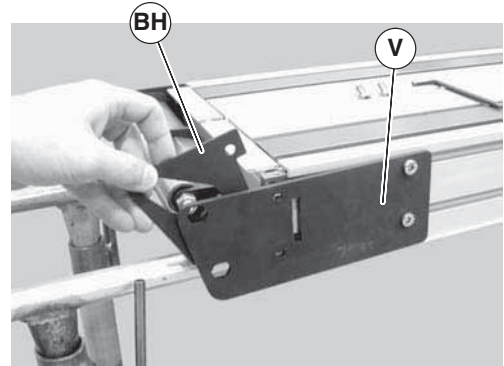

Figure 66
3. Pull back the outer headplate (Figure 66, item V) and remove the inner spacer (BH).